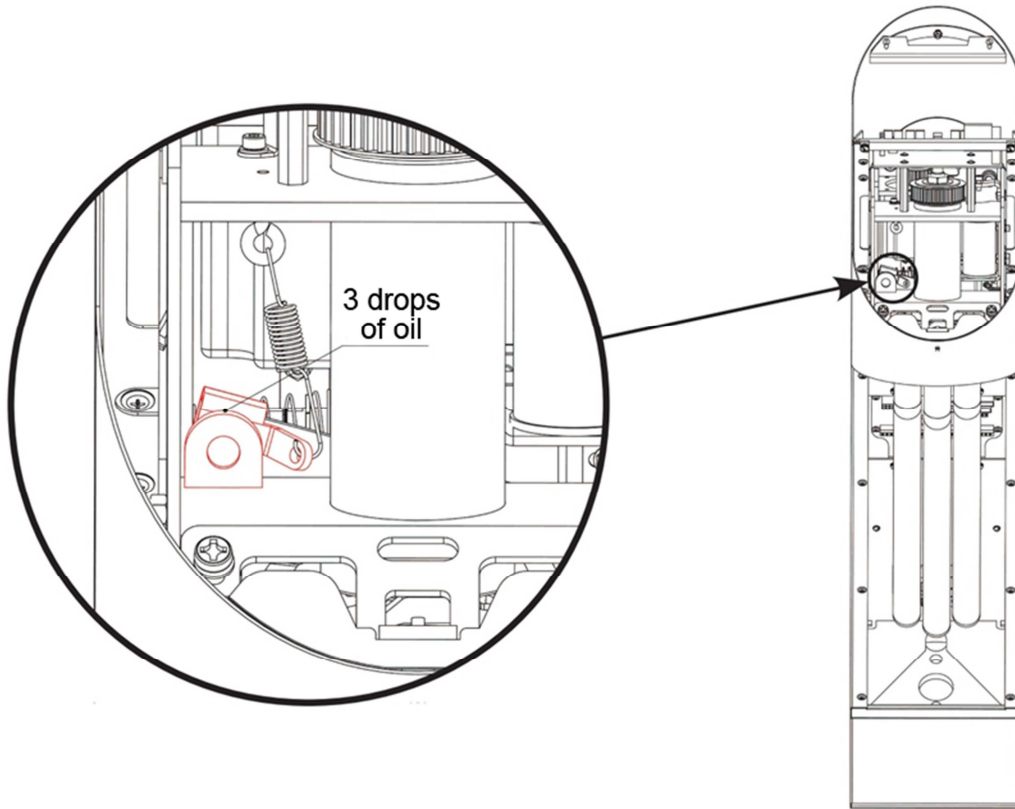

Fig. 12 Central stand of turnstile
5.2. The rotation axis of the roller lever (Fig. 12).